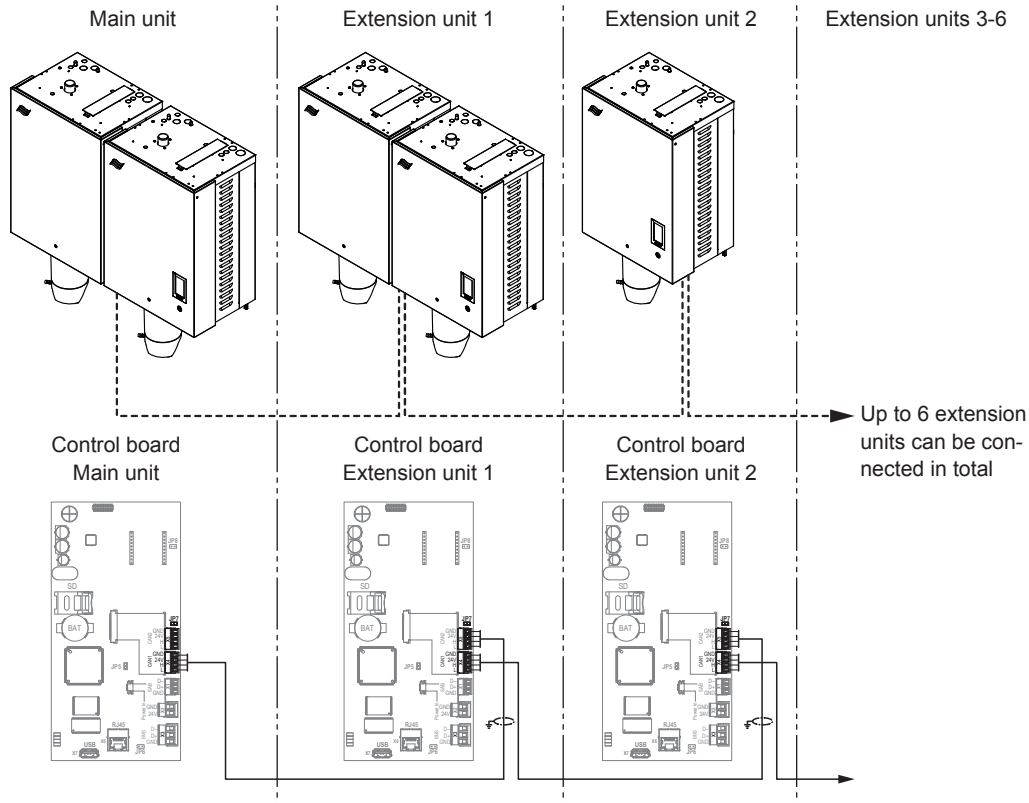
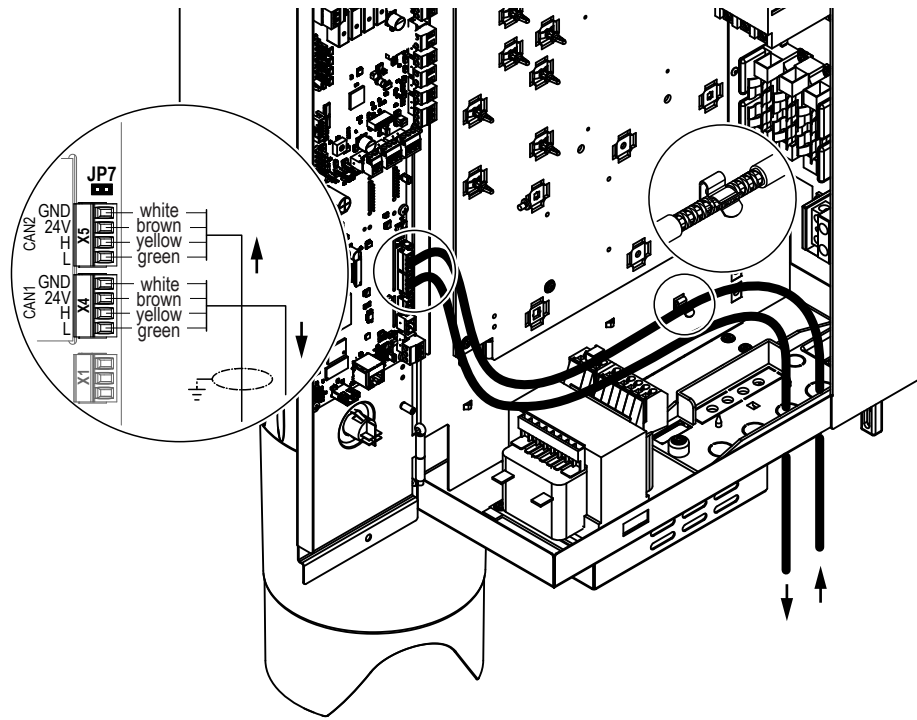

Fig. 25: Connecting multiple units (device interconnected system)
Fig. 26: CAN Bus cable connection / Shielding
Connect multiple units as follows (see Fig. 25):
2. Connect all devices in the "device interconnected system" using the pre-assembled CAN Bus cables (not supplied with the unit) according to the diagram shown in Fig. 25 and Fig. 26.
- Pinch the freed shielding of the pre-assembled CAN Bus cable coming from the previous device into the clamp holder inside the control compartment of the humidifier as shown in Fig. 26.
- Connect CAN Bus cables to the corresponding terminal block (incoming cables to "X5" and outgoing cables to "X4") as shown in Fig. 26 on the control board of each device.